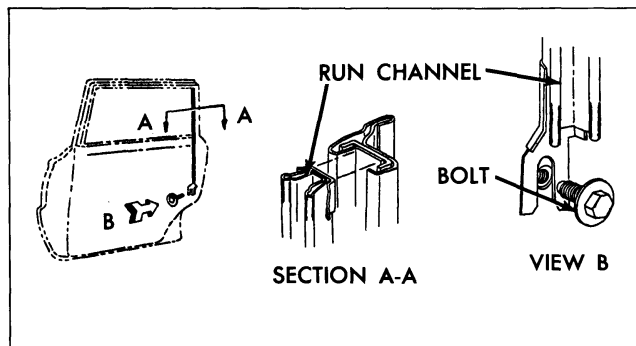

Fig. 3-58 Glass Run Channel Attachment
2. From inside door, remove bolt securing lower end of glass run channel at door lock pillar facing (Fig. 3-58).